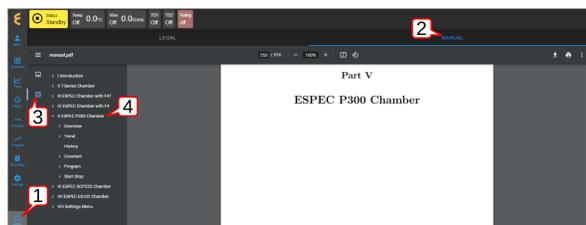

Figure 5.1: Embedded Manual
1. **Embedded PDF:** The embedded PDF is accessible from the MANUAL tab under the **About** menu, as depicted in Figure 5.1. To view the PDF manual, access the buttons according to the numbered labels in the figure.